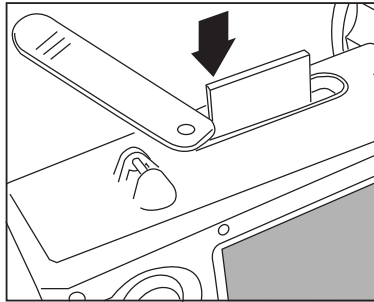

Figure 4. Inserting a Memory Card
1. Pull cover up and rotate as shown in Figure 4.